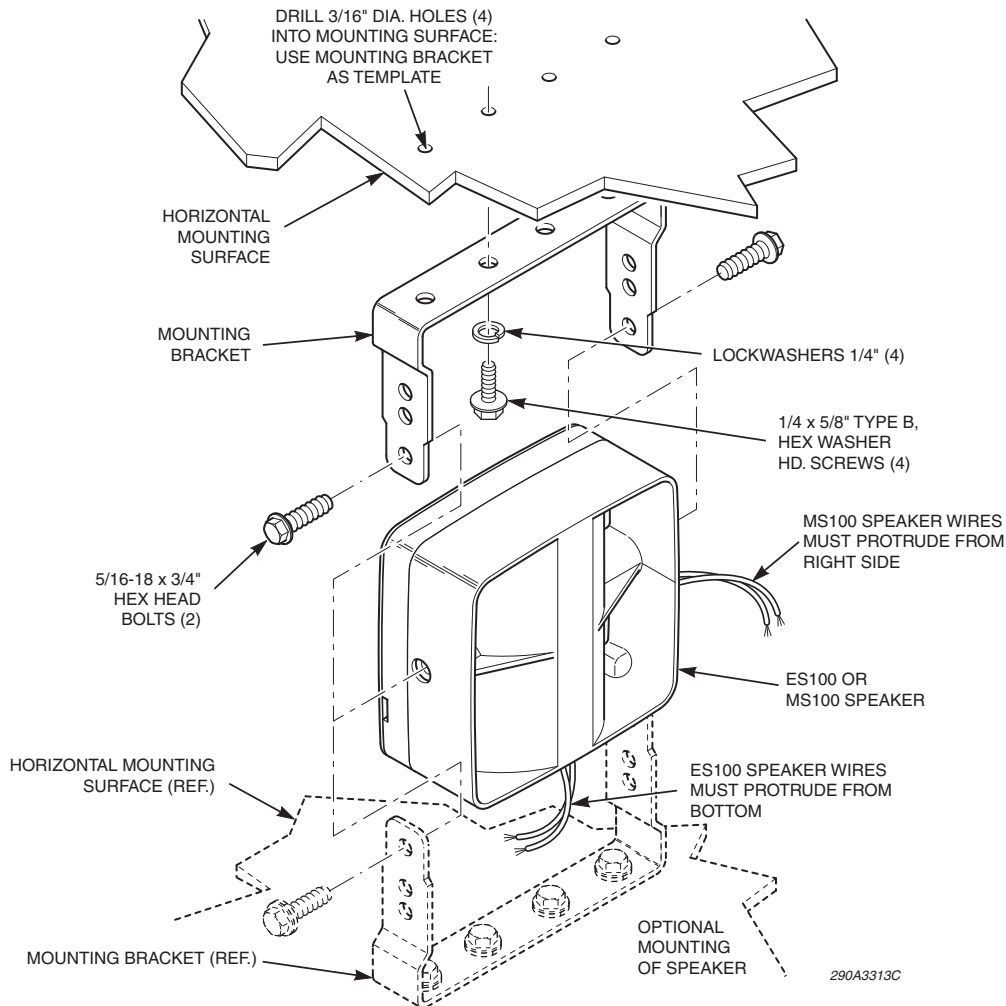

Figure 2: ES100 and MS100 horizontally mounted using outer bracket holes
- Use the outer pair of holes when mounting the ES100 or MS100 on a horizontal surface (*Figure 2* on page 5).
- Secure the bracket or assembled unit to the mounting surface with the 1/4" x 5/8" Type B screws and 1/4" split lockwashers (*Figure 1* below and *Figure 2* on page 5).